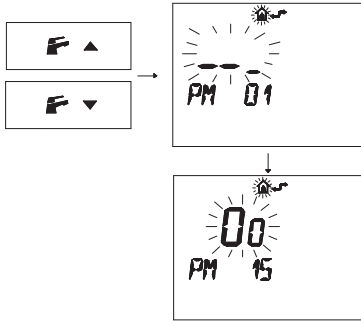

Fig. 7.13
- Press buttons  or  to display the "PM15" program that enables the external probe (Fig. 7.13)